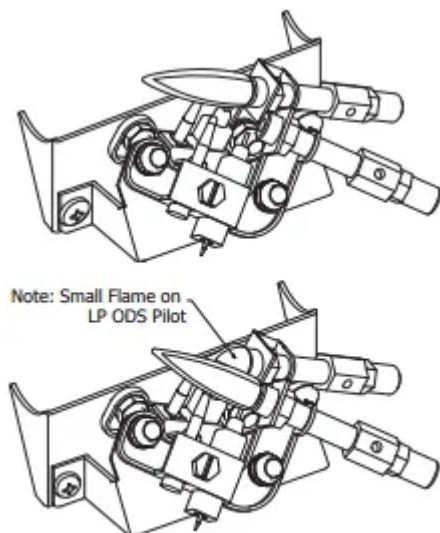

Fig. 27 - Pilot
6. With control knob depressed, push down on the ignitor button until the pilot lights. The pilot’s location is behind log #3 near the center of the burner. (See Fig. 27).